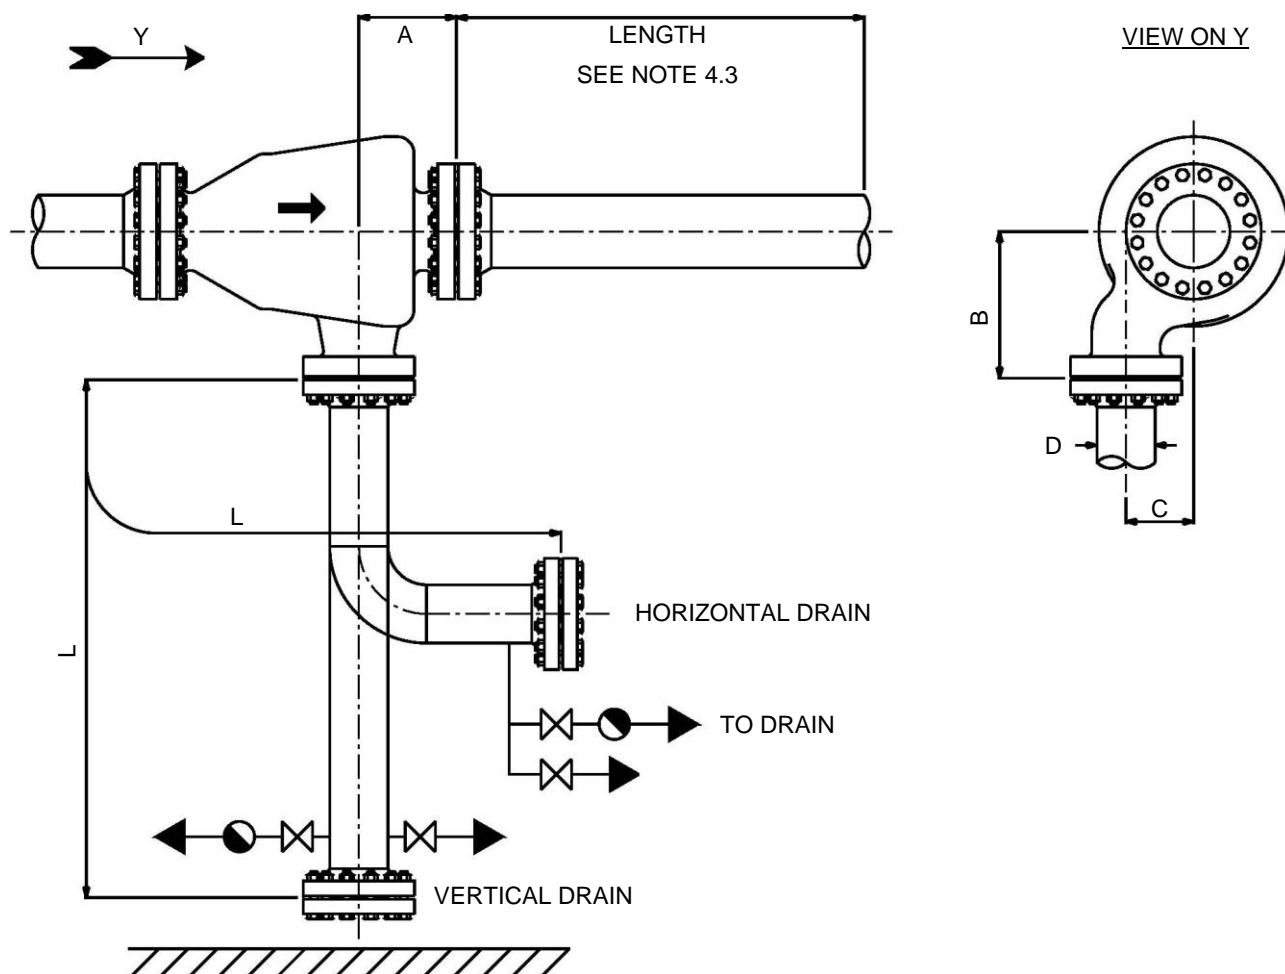

Figure 2
4.1 The KSS Type Cyclone Separator must be installed in a horizontal position as illustrated in Figure 2.